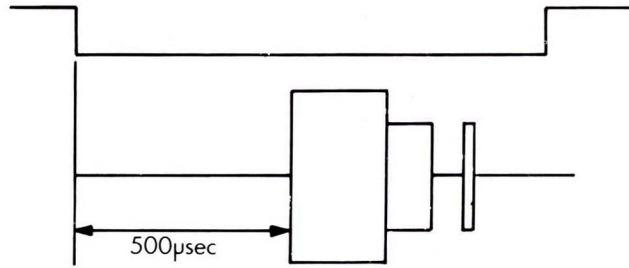

Fig. 5-1 Index burst waveform
- vi) Adjust VR201 so index frequency is  $200 \pm 2\text{ms}$  (See Fig. 5-1).
- 5) Measure timing between sweep start and an initial data pulse. It should be 500 usec  $\pm$ 500 usec. When the timing is not within this range, proceed with the following adjustment. (Refer to Fig. 5-1).
- 8) Seek to the track OO and make sure that the timing is within 500 usec  $\pm$ 200 usec ( $\pm$ 300 usec). Tighten the screws. (Fig. 5-1).